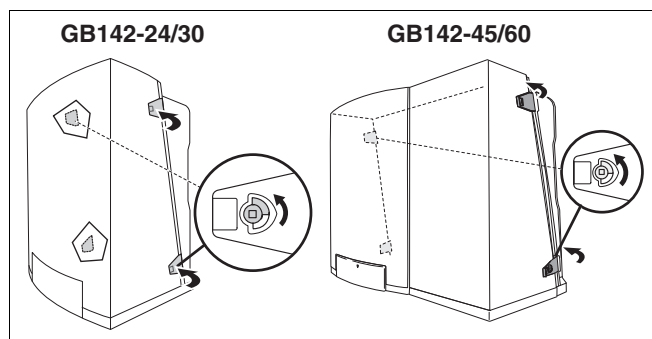

Fig. 49 Remove the casing
- Remove the casing (fig. 49).